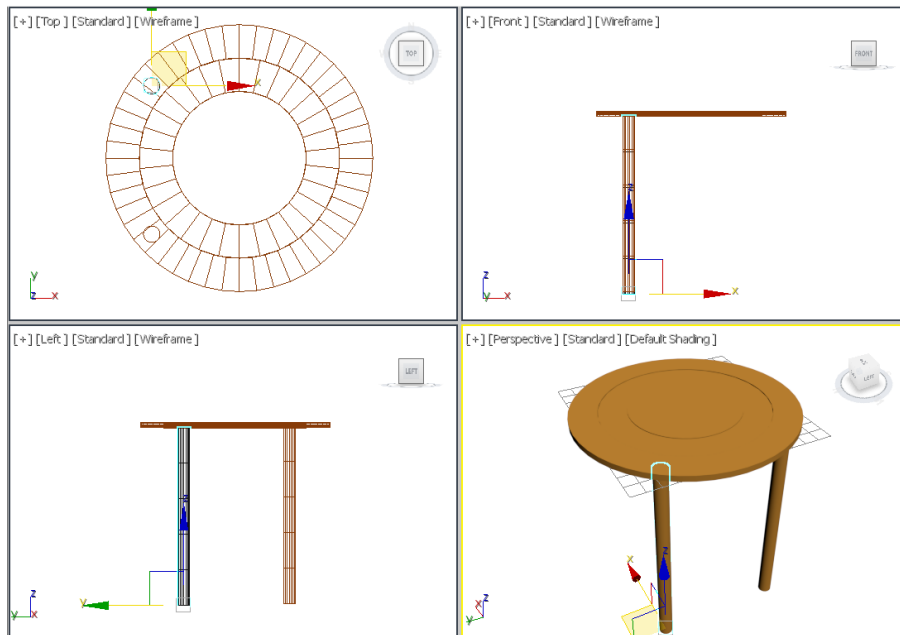

Figure 2-54 The *leg002* created after cloning *leg001*
- Make sure the **Copy** radio button is selected in the **Object** area and 1 is displayed in the **Number of Copies** spinner of the **Clone Options** dialog box. Next, choose the **OK** button; *leg002* is created. Align *leg002* in the viewports, as shown in Figure 2-54.